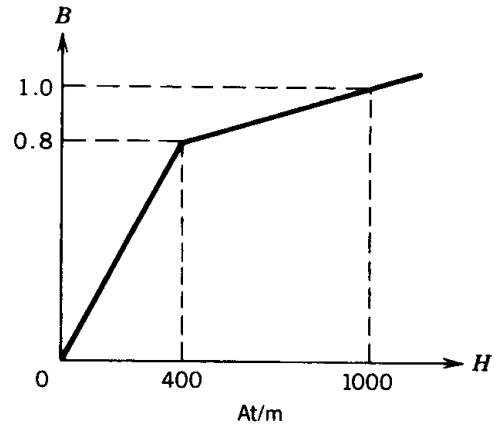

FIGURE P1.15
- 1.15 The magnetic circuit for a saturable reactor is shown in Fig. P1.15. The B - H curve for the core material can be approximated as two straight lines as in Fig. P1.15.